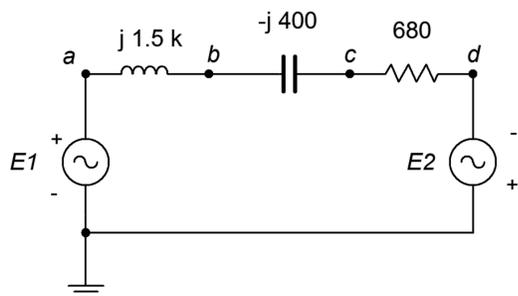

Figure 2.36
54. For the circuit of Figure 2.36, determine the voltages  $v_b$  and  $v_{db}$ .  $E1=2\angle 0^\circ$  and  $E2=5\angle 90^\circ$ .
56. For the circuit of Figure 2.36, determine the inductor and capacitor values if the source frequency is 12 kHz.